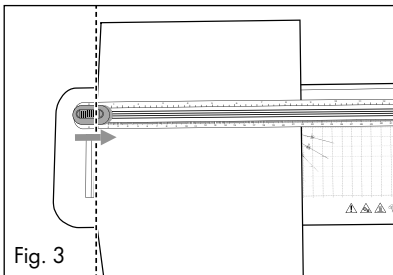

Fig. 3
- 3) Use the markings on the cutting ruler **1** to precisely align the paper/pouch if you want to shorten or cut at an angle, for example (see Fig. 3 and 4).